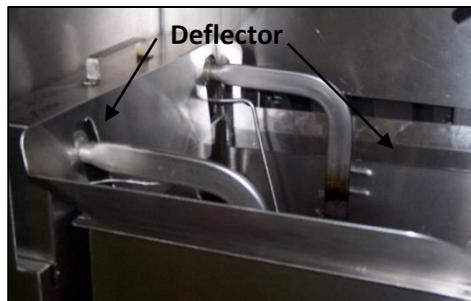

Figure 8
- Place the oil deflector over the heating element and onto the oil pot. Figure 8.